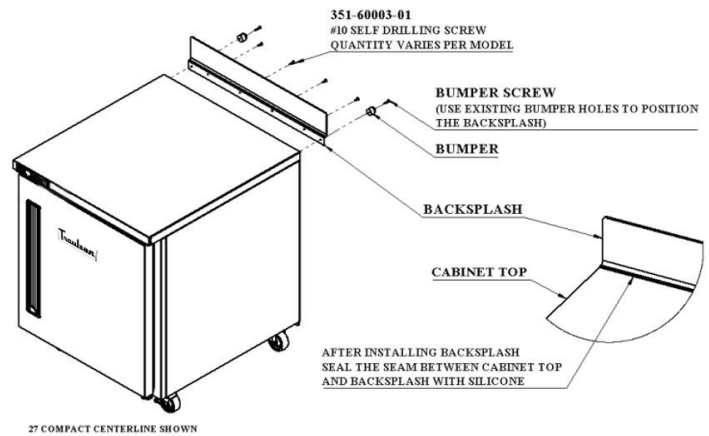

Fig. 5
1. Install backsplash as shown in figure 5. The backsplash is attached with self-drilling Philips head screws. The outer most holes are used to install bumpers.